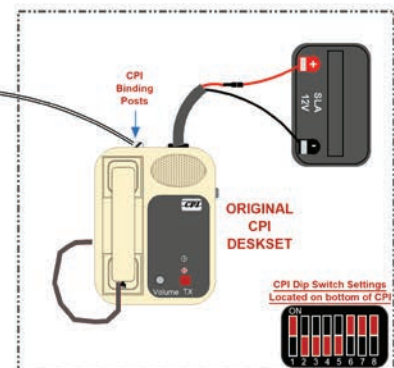

Figure 3:
- Strip and attach the field wire in parallel to the binding post of the Original CPI remote desk set. (See Figure 3)